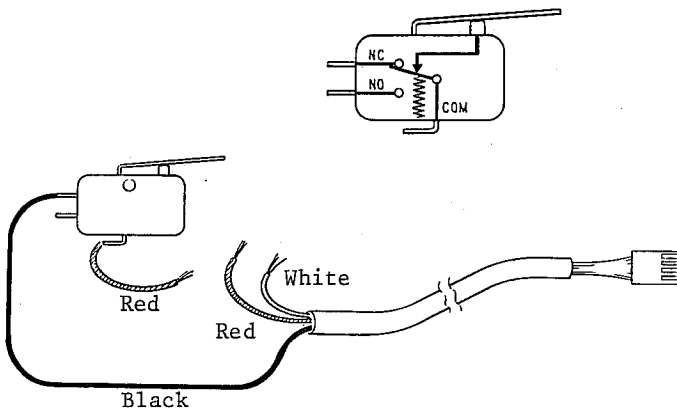

Fig. 9-9
- 7) Solder the leads to the microswitch as shown in the Fig. 9-9.